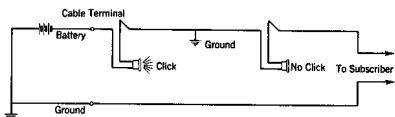

FIGURE 4. Battery Side Grounded
- Touch the end of the wire that leads away from the central office with the other clip. See Figure 4.